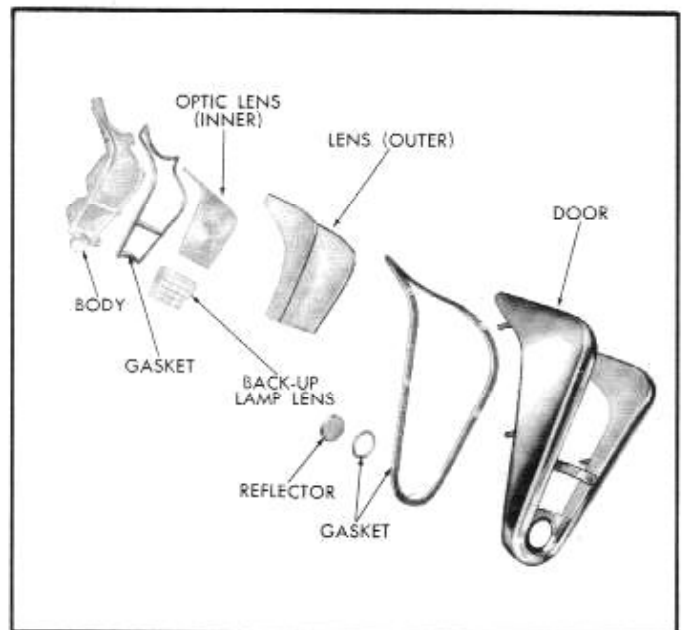

Fig. 11-23—Rear Lamp Disassembled
5. Remove tail lamp outer lens from rear lamp door. Remove tail lamp lens and back-up lamp lens from rear lamp body. See figure 11-23.